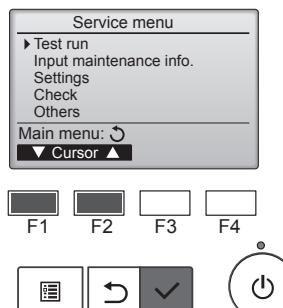

Fig. 6-4
- ③ Select "Test run" with the [F1] or [F2] button, and press the button. (Fig. 6-4)